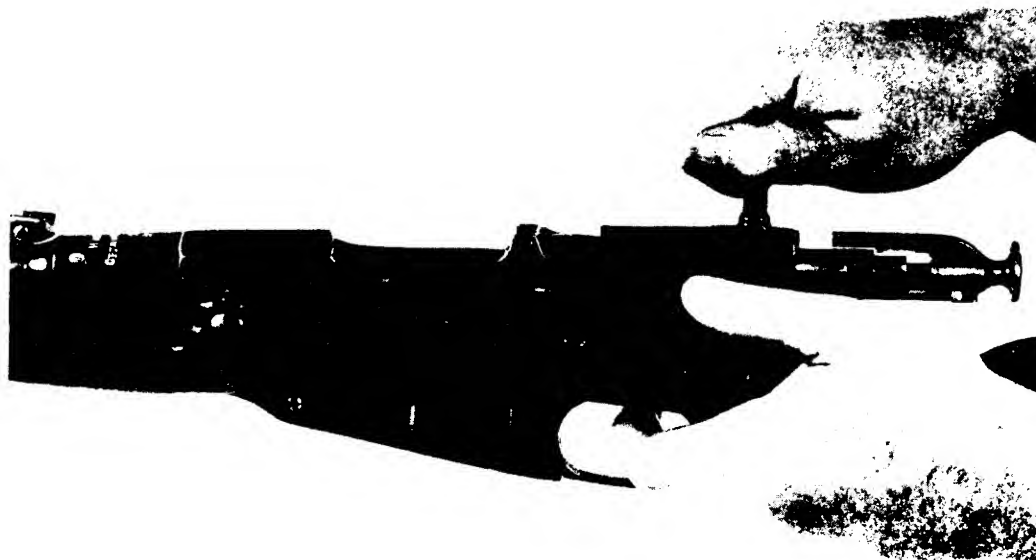

FIGURE 45. REMOVING THE BOLT.
- (1) To remove the bolt (fig. 44), squeeze the trigger and, at the same time, pull the bolt all the way to the rear (fig. 45).